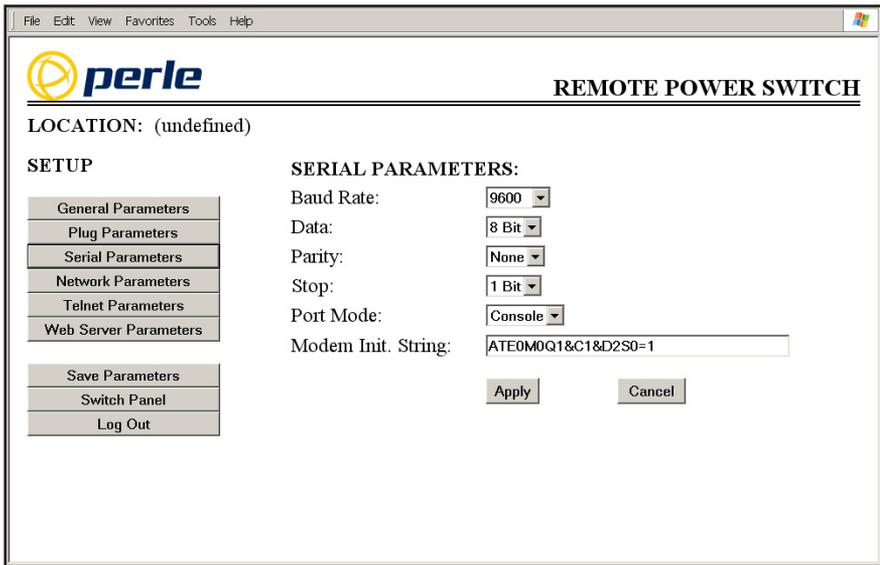
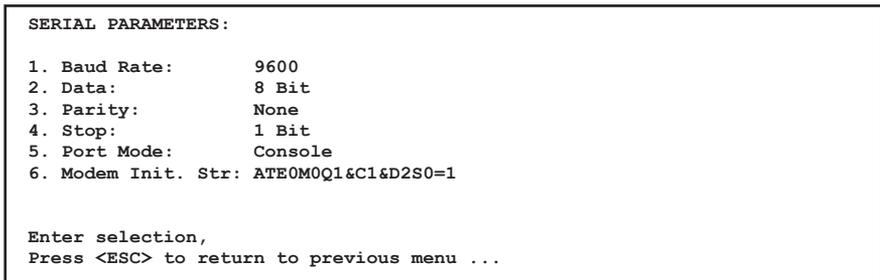

Figure 5.5: Serial Parameters Menu - Web Browser Interface
Figure 5.6: Serial Parameters Menu - Text Interface
- **Web Browser Interface:** Click the "Setup" button to access the Setup Menus, and then click the "Serial Parameters" button. The Serial Parameters Menu will be displayed as shown in Figure 5.5.
- **Text Interface:** Type **/C** and press **[Enter]**. The Serial Parameters Menu will be displayed as shown in Figure 5.6.
As shown in Figure 5.5 and Figure 5.6, the Serial Parameters Menus allow you to define the following parameters: